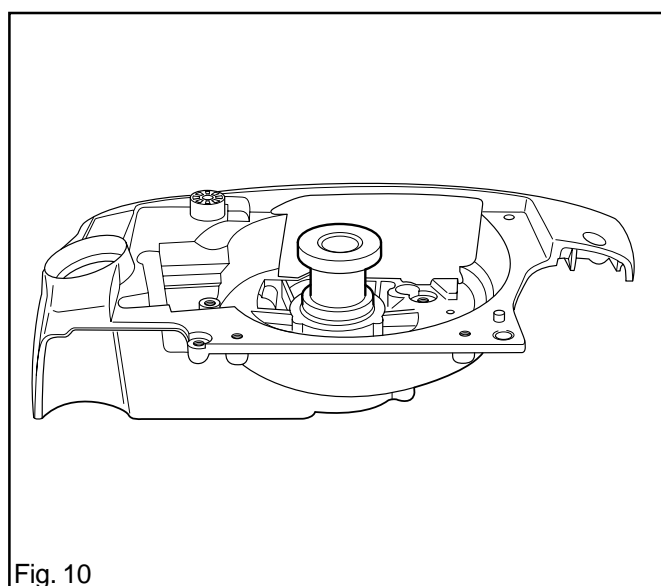

Fig. 10
2. When fitting new seals the sealing surfaces should be greased in. When fitting the seal on the flywheels side use tool 502 50 30-17. The seal on the clutch side is fitted in the ball bearing. See fig. 10.